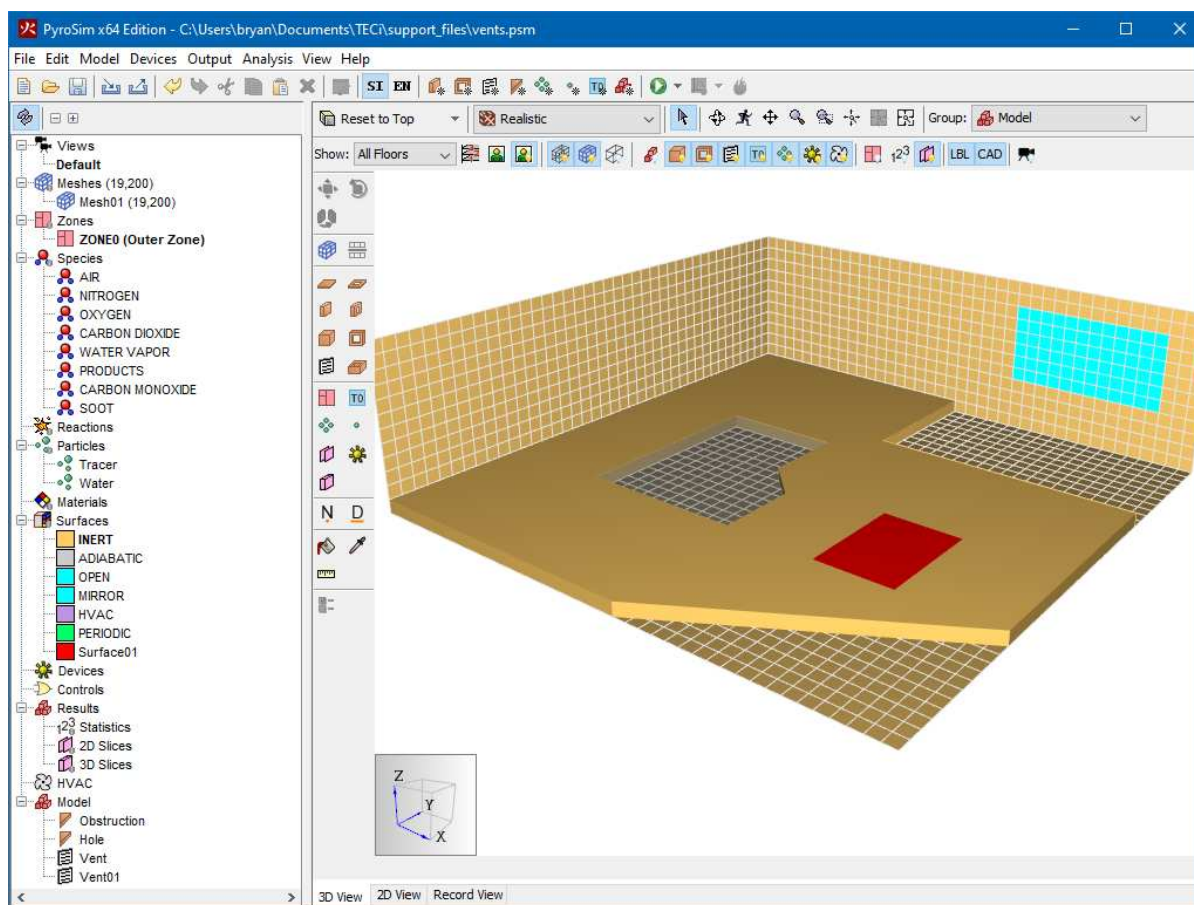

Figure 49. Vents on a mesh boundary and obstruction
**Vents** have general usage in FDS to describe a 2D rectangular patch on the surface of a **solid** obstruction or on a mesh boundary as shown in Figure 49. A **vent** may have a different surface applied to it than the rest of the obstruction to which it is attached.